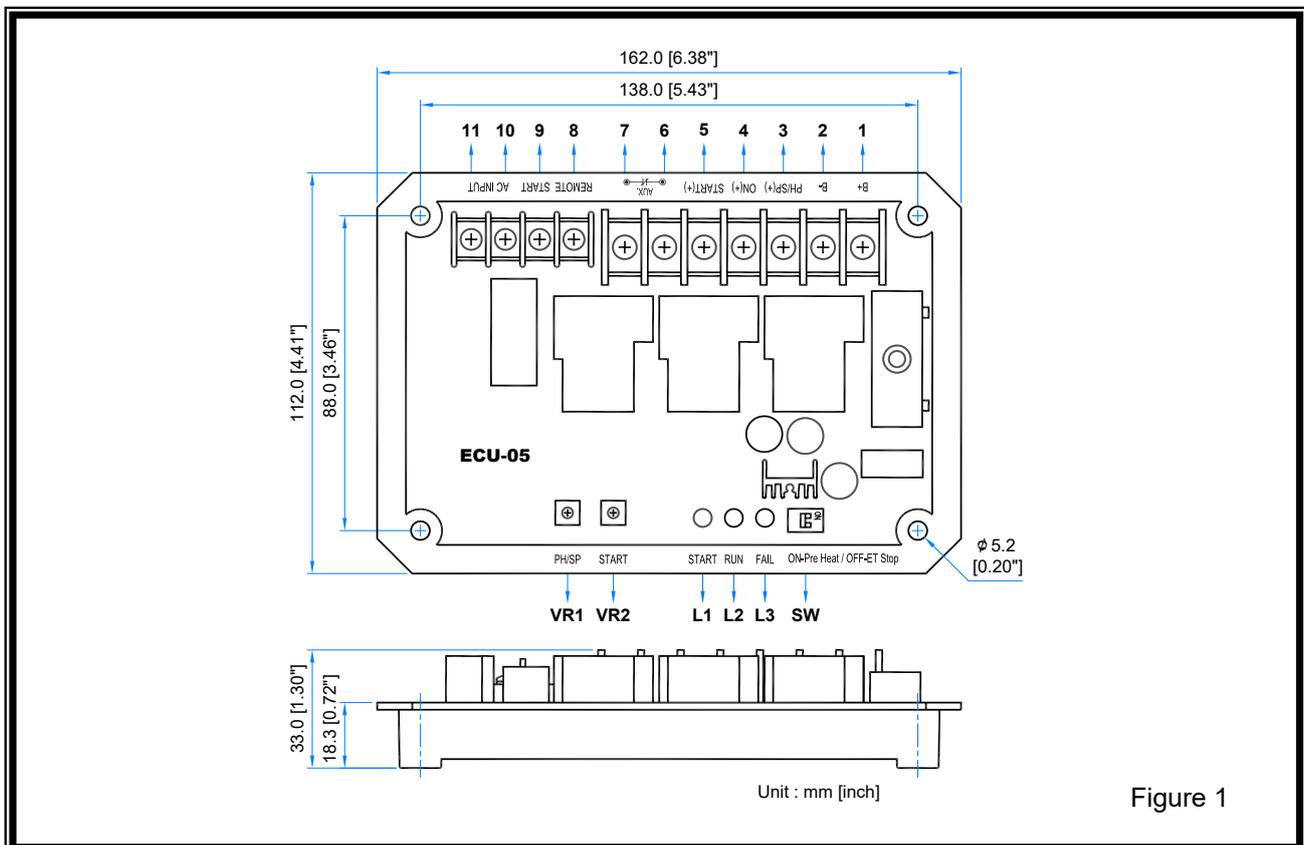

Figure 1
- VR1 : Pre-heat engine timer adjustment 1 – 20 seconds range - factory set for 5 seconds (Please refer to Figure 1 below).
- VR2 : Starter cranking time adjustment 1 – 20 seconds range - refer to the generator user's guide 4 – 8 seconds suggested. (Please refer to Figure 1 below).
- L1 : Remote start activated indicator LED. (Please refer to Figure 1 below).
- L2 : Engine running normal indicator LED. (Please refer to Figure 1 below).
- L3 : Start fail indicator LED. (Please refer to Figure 1 below).